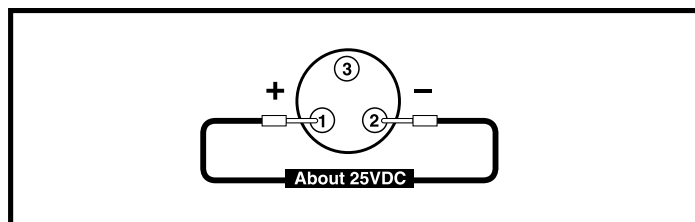
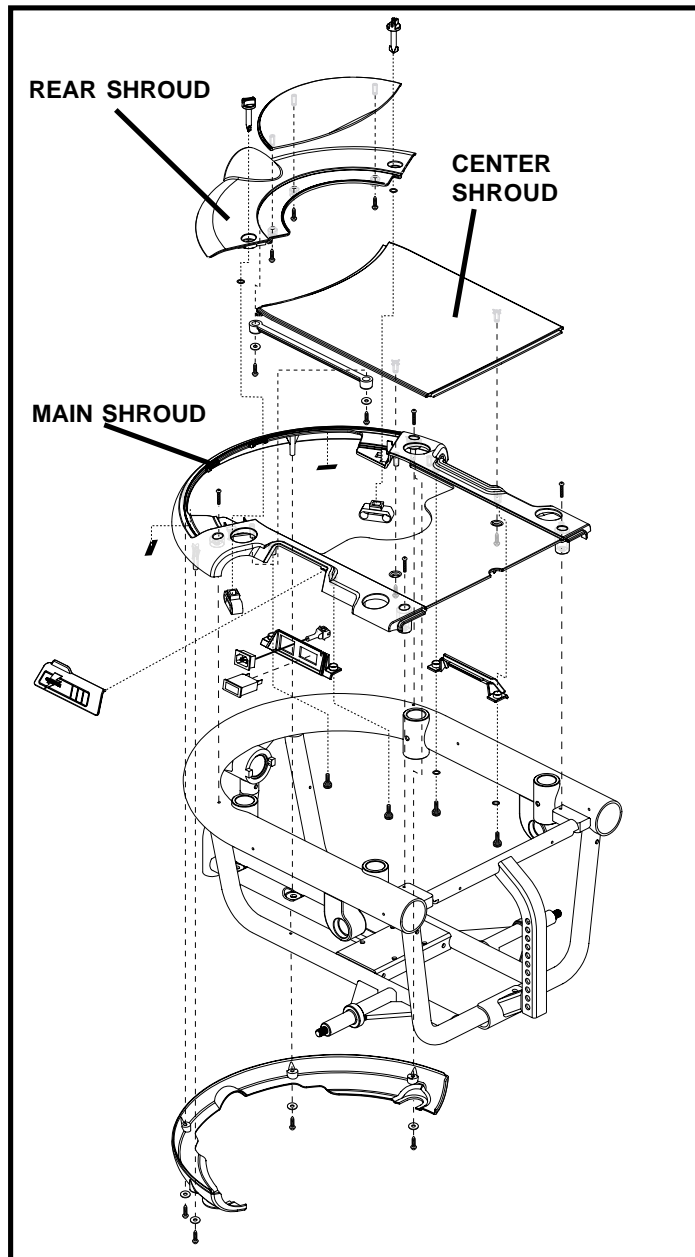

Figure 2. Connector 1a
Figure 3. Shroud Assembly
**NOTE: The circuit breaker harness (7) connects the circuit breaker directly to the batteries. If this harness is NOT CONNECTED TO THE POSITIVE TERMINAL OF ONE BATTERY AND THE NEGATIVE TERMINAL OF THE OTHER BATTERY, THE POWER CHAIR WILL NOT POWER UP AND THE CIRCUIT BREAKER WILL TRIP. Make sure that this harness is connected correctly before proceeding.**
1. Measure voltage across pin 1 (B+) and pin 2 (B-) of the off-board charger socket (connector 1a). See diagram 3 and figure 2.
- If your multimeter indicates about 25VDC, then replace the FLIGHT controller (1) and retest the system.
3. Remove the rear shroud. See figure 3.
4. Remove the center shroud. See figure 3.